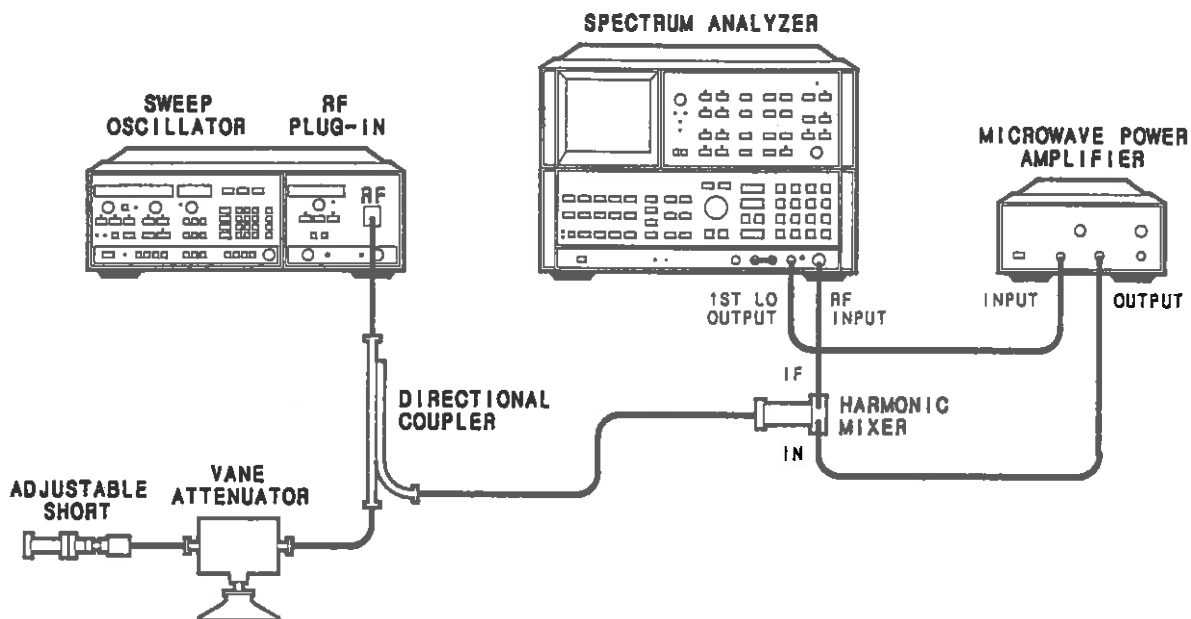

Figure 4-8. Frequency Change with 3:1 Load SWR Test Setup
11. Connect the equipment as shown in figure 4-8. Set the vane attenuator to 3 dB.